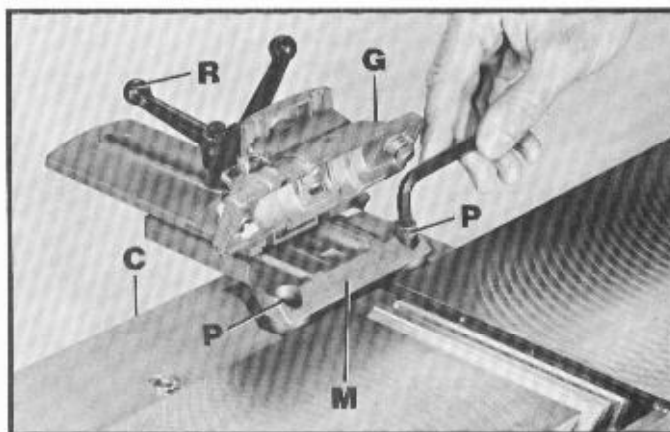

Fig. 9
2. Slide the top movable fence bracket (G) Fig. 9, all the way to the rear of the fence bracket assembly (M) as shown and hold in place by turning the locking lever (R), clockwise. **NOTE:** The locking lever (R), is spring-loaded and can be repositioned by pulling out on the handle and repositioning it on the serrated nut located underneath the lever.
3. Place the lower part of fence bracket (M) Fig. 9, carefully in the opening at the rear of the jointer table and over the belt and pulley guard (C), as shown; fasten with two 2" long socket head cap screws (P).